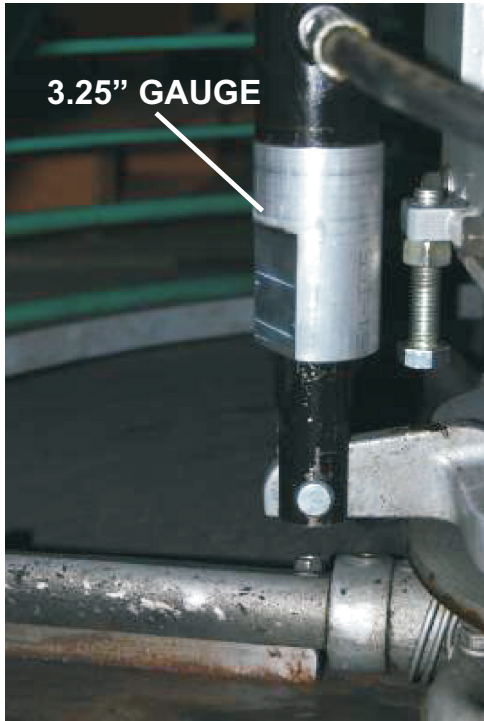

Figure 42. Gauge Installation
- b. Install 3.25" Gauge (P/N 32044) over both Left and Right Cylinders as shown in Figure 42.
- a. Install 2.25" Gauge P/N 32000 over both Left and Right Cylinders as shown in Figure 42.